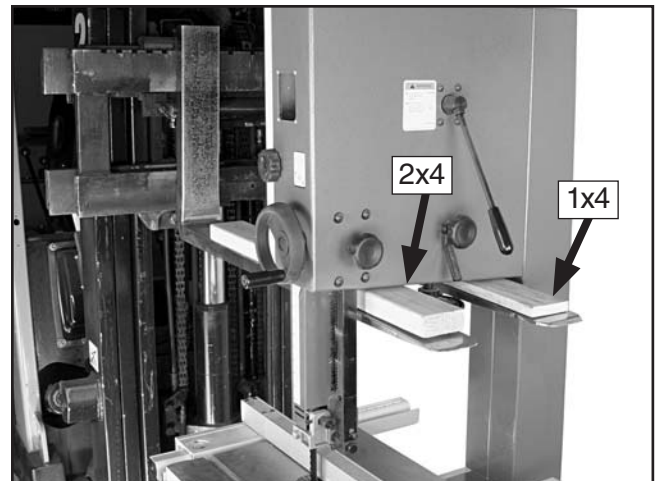

Figure 9. Example of lifting bandsaw with forklift using wood shims.
3. Carefully place the forklift forks under the head and install a 1x4 shim between the head and the left fork and a 2x4 shim between the head and right fork so the bandsaw is level, as shown in **Figure 9**.